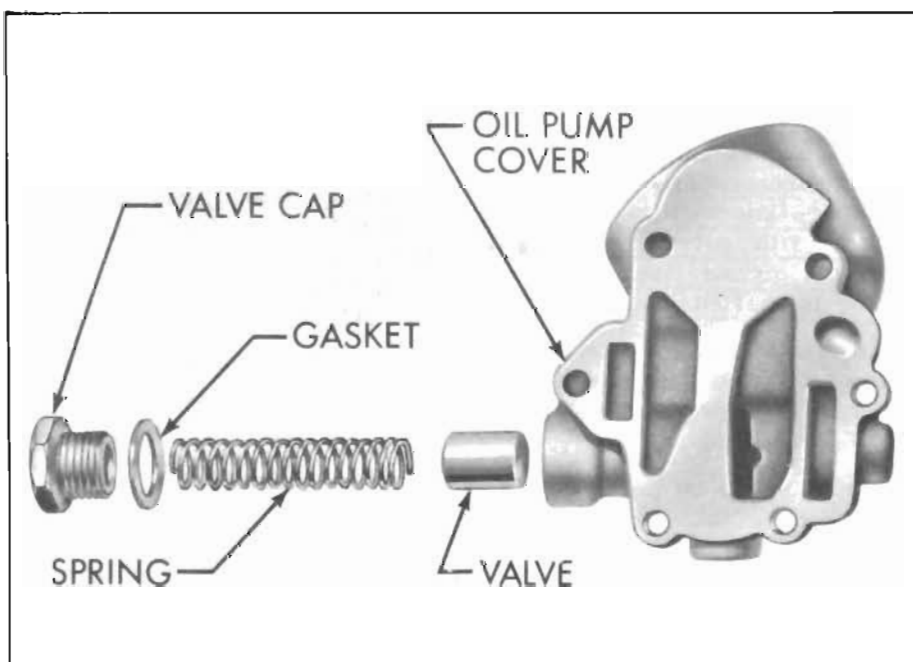

Figure 2-46—Oil Pump Cover and By-Pass Valve
5. Remove the oil pressure relief valve cap, spring and valve. See Figure 2-46. Oil filter by-pass valve and spring are staked in place and should not be removed.
1. Lubricate and install pressure relief valve and spring in bore of oil pump cover. See Figure 2-46. Install cap and gasket. Torque cap to 30-35 pounds with a reliable torque wrench. Do not over-tighten.